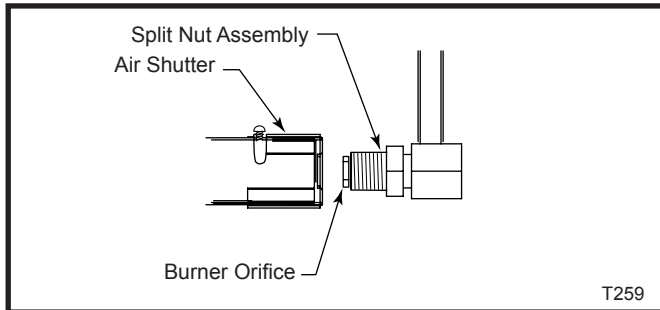

Fig. 51 Replace burner orifice with correct conversion orifice.
- Using a suitable tool replace natural orifice #47 with propane orifice #56 for model 33RDVP, or replace natural orifice #45 with propane orifice #55 for model 36RDVP, or replace natural orifice #42 with propane orifice #54 for model 39RDVP furnished with conversion kit. Tighten orifice with suitable tool until gas tight. (Fig. 51)